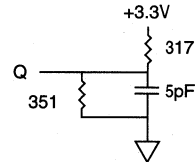

Fig. 2 OUTPUT LOAD EQUIVALENT
- Output loading is specified with C_L = 5pF as in Fig. 2. Transition is measured ±500mV from steady state voltage.
- The load used for V_{OH}, V_{OL} testing is shown in Fig. 2. AC load current is higher than the stated DC values. AC I/O curves are available upon request.